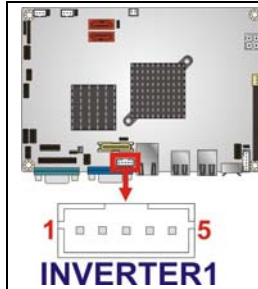

Figure 3-7: Backlight Inverter Connector Pinout Locations
- CN Location:** See **Figure 3-7**